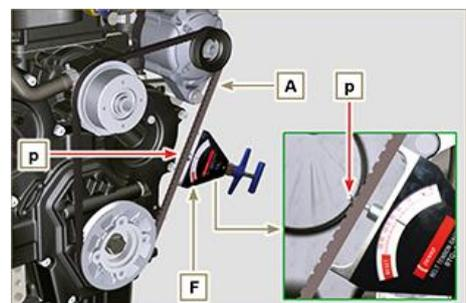

Fig 5.10
5. Check by the appropriate tool that at point **p** the tension value is between **70 and 75 Hz** for V-belt of **9 mm** and **80 and 85 Hz** for V-belt of 17 mm (**Fig. 5.10 (H)**).